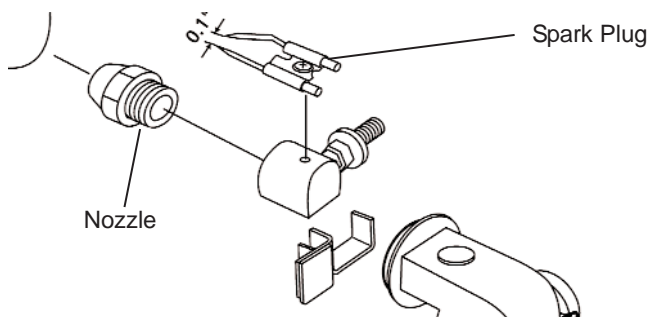

Figure 9 – Spark Plug Replacement
- Remove spark plug wire from spark plug (See Figure 9).